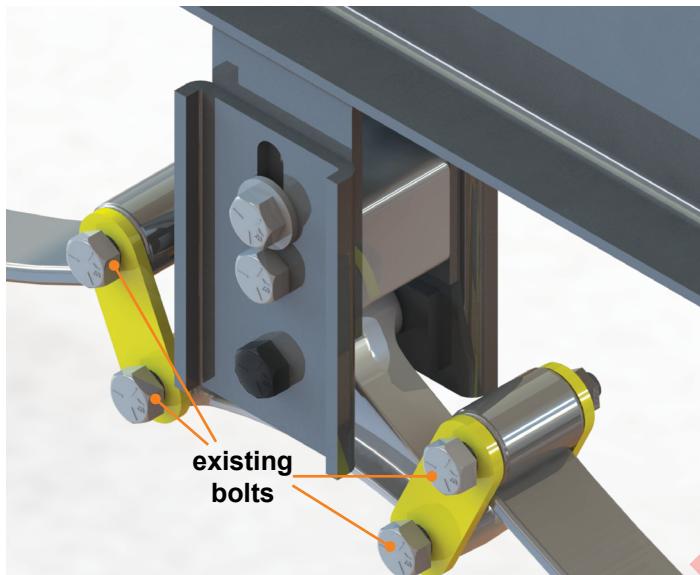
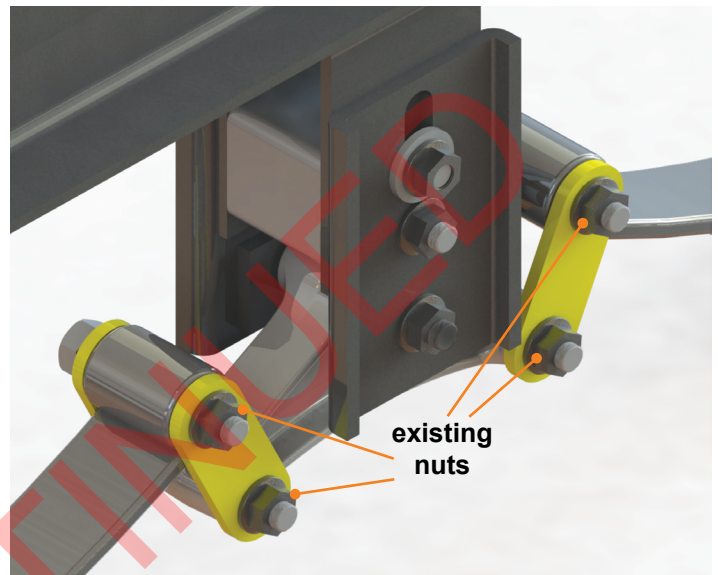

Fig.10
Fig.11
11. Bolt the leaf spring to the shackle, using existing bolts. Torque to manufacturer's recommendations (Fig.10).
NOTE: If the shackles were removed from the equalizer, use existing bolts or replace as needed (Fig.10 and Fig.11).